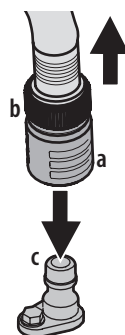

Figure 30
3. Pull back the lock collar (a) of the nozzle adapter (b) and push the nozzle adapter onto the deck wash nozzle (c). Release the lock collar to lock the nozzle adapter on the deck wash nozzle. See Figure 30.